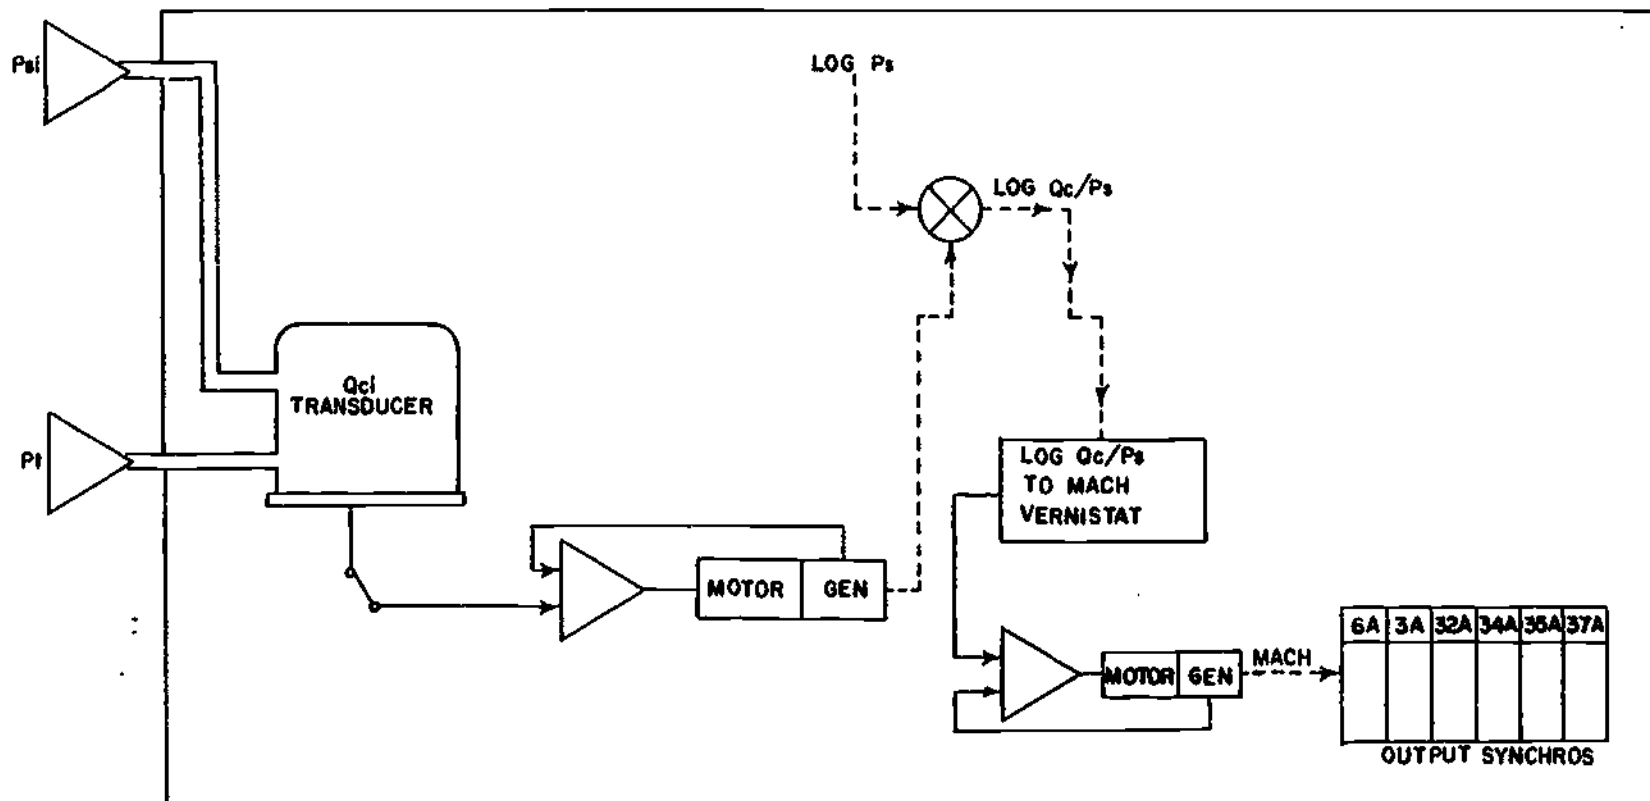

Figure 21.
The mach signal originates in the Pt transducer (figure 21) inside the CADC. The Pt transducer receives pitot and static pressure from the pitot-static tube. The airspeed diaphragm inside the Pt transducer, expands and contracts with changes in either aircraft airspeed or altitude. The airspeed diaphragm is mechanically connected to the rotor of a synchro inside the Pt transducer. When the diaphragm expands or contracts, the rotor of the synchro is turned creating the mach signal. The Mach signal is amplified by AR-5 and sent to the motor-generator. The mechanical shaft rotation of the motor is connected to: (1) the Pt transducer for nulling the servoloop; (2) the self-test synchro to keep it in the correct phase; (3) differential number 5 where $\log Q_c$ and $\log P_s$ are mixed. The output of differential #5 is $\log Q_c/P_s$ and is applied to the Q_c/P_s vernistat. The output of the Q_c/P_s vernistat is an electrical signal equal to Mach. The electrical mach signal is amplified by AR-6 and applied to the motor-generator MG-3. Nulling is accomplished by a feedback from the mach vernistat (pot). The generator sends a signal back to the amplifier to prevent oscillation of the mach tape. The mechanical output of the motor is connected to the various output synchros and pots. Synchro output 3A is the mach output from the computer to the airspeed-mach indicator.
Trace the Mach signal on the simplified schematic, figure 21. After you have traced the Mach signal on the simplified schematic, locate the computer schematic in the vertical scale flight instruments handout. Trace the Mach signal on the computer schematic. If you have any questions on how the Mach signal originates, ask your instructor.